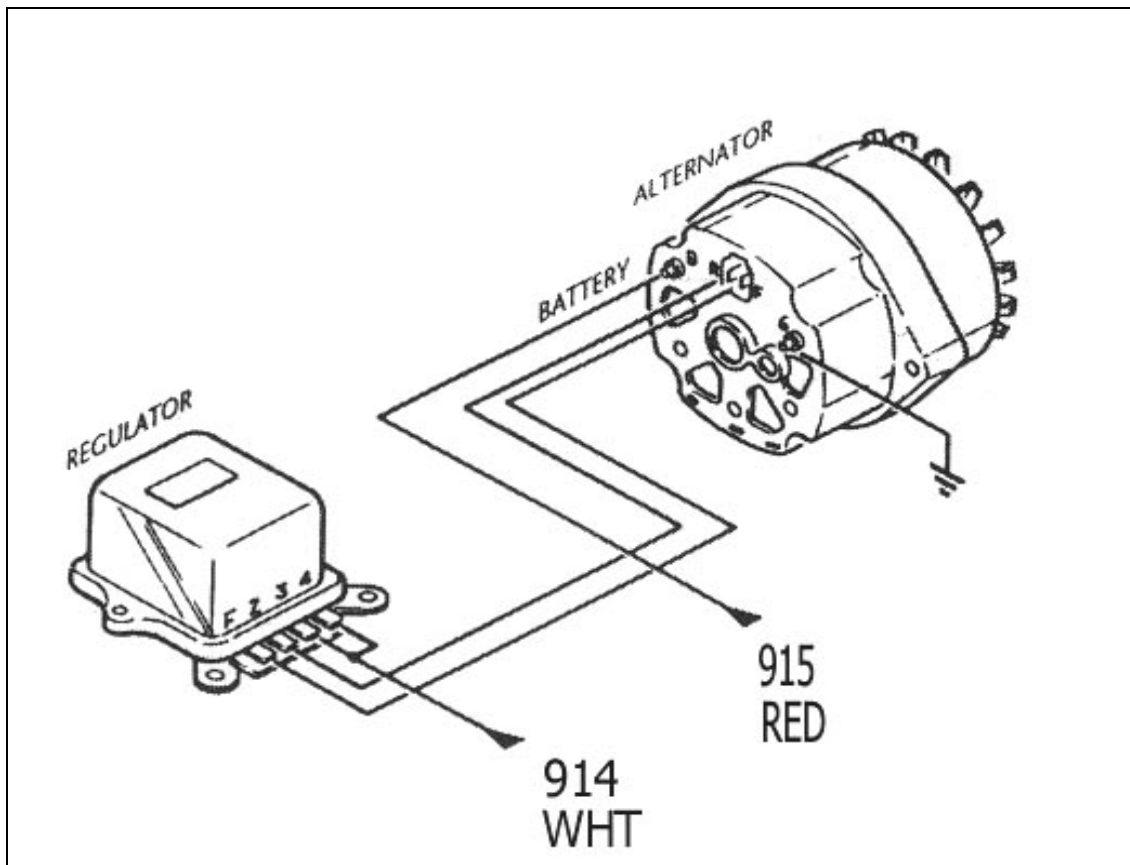

Figure 2-1 Early GM Alternator - External Regulator
2.1 Early GM Alternator (before 1969)-External Regulator. See Figure 2-1